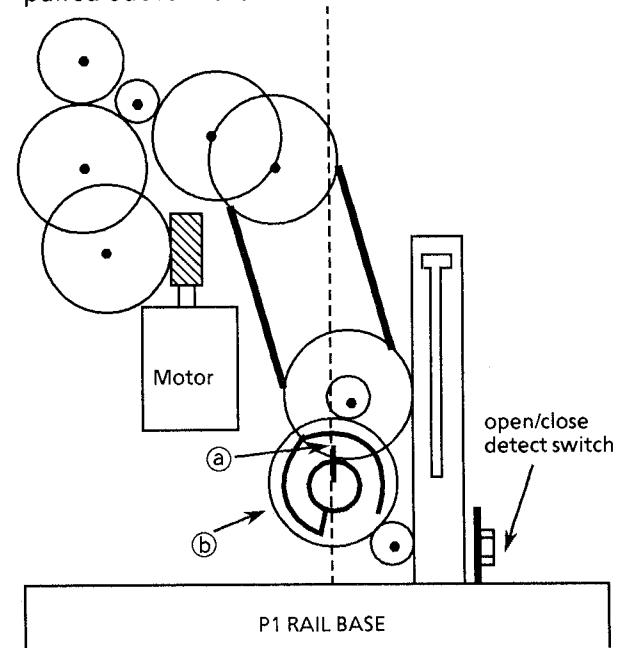

Fig.5
- 2) Remove the screw ⑩ fixing the open/close sw and the sw.
- 3) Pull the P1 RAIL BASE by pulling up the hook ⑩ slightly.
* Install gear ⑩ so that part ⑩ shown in fig.5 is perpendicular to the P1 rail base.